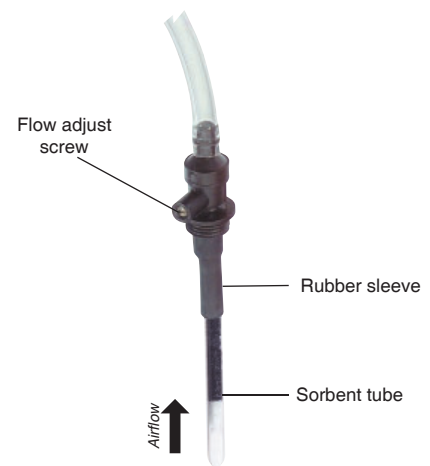

Figure 3. Single Adjustable Tube Holder with Sample Tube
Using Single Adjustable Tube Holder (*Figure 3*)
- b. Insert an opened representative sorbent tube into the rubber sleeve (*Figure 3*) of the tube holder **with the arrow on the tube pointing toward the tube holder**.
5. Loosen the brass flow adjust screw (*Figure 3*) on the tube holder. Adjust the flow rate by turning the flow adjust screw (**counterclockwise to increase, clockwise to decrease**) until the flowmeter indicates the desired flow. Take a minimum of three readings and record the average flow rate, as per OSHA/NIOSH instructions.